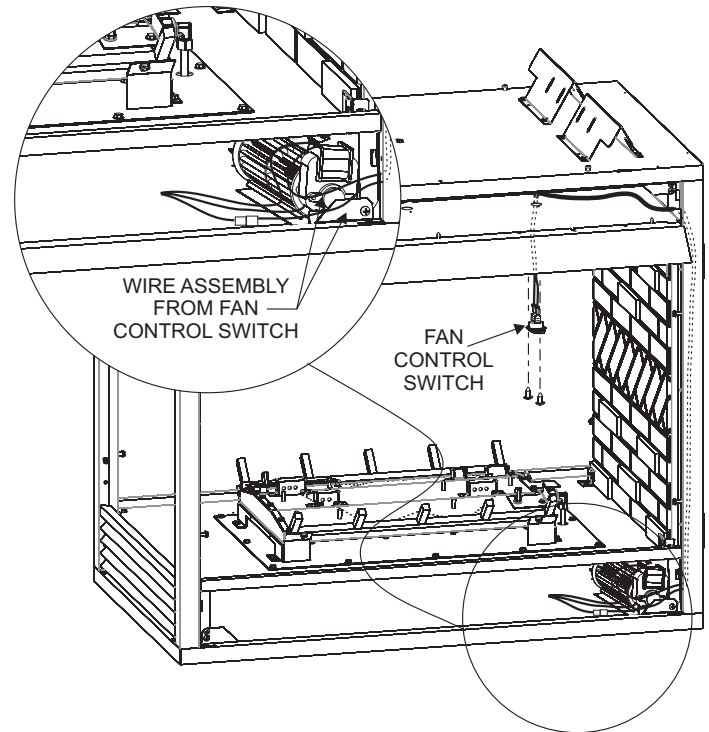

Figure 14
3. Next, find the fan control switch and wire assembly. Feed the wires through the hole at the top of the firebox, and secure the fan control switch with two (2) #6 screws (provided). The fan control wires will slide down between the firebox and outer wrap near the blower assembly. **See Figure 14.**